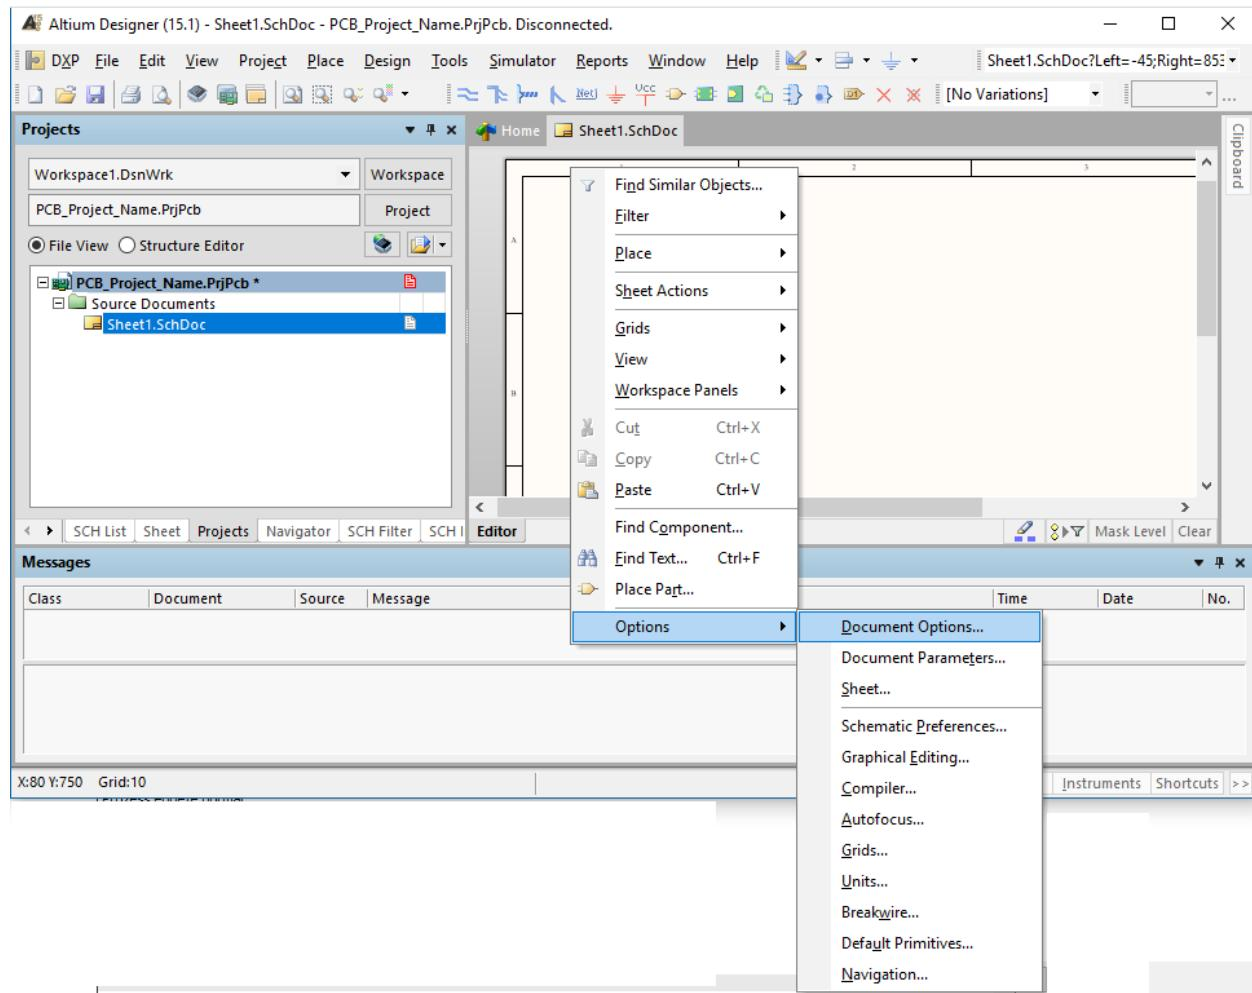

Figure 16: Altium change options of the generated Document in this case a schematic sheet.
8. In the generated document which is a schematic sheet the Document options have to be set. Right click mostly anywhere on the schematic sheet then follow **Options...** → **Document Options...**, as shown in Figure 16.